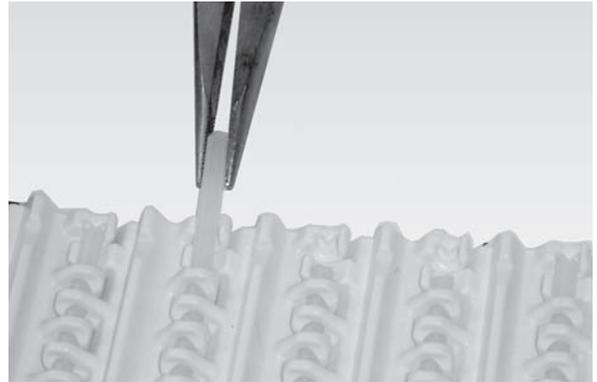

Figure 61
3. Remove the belt rod by gripping the end with a set of pliers and pulling (**Figure 61**).